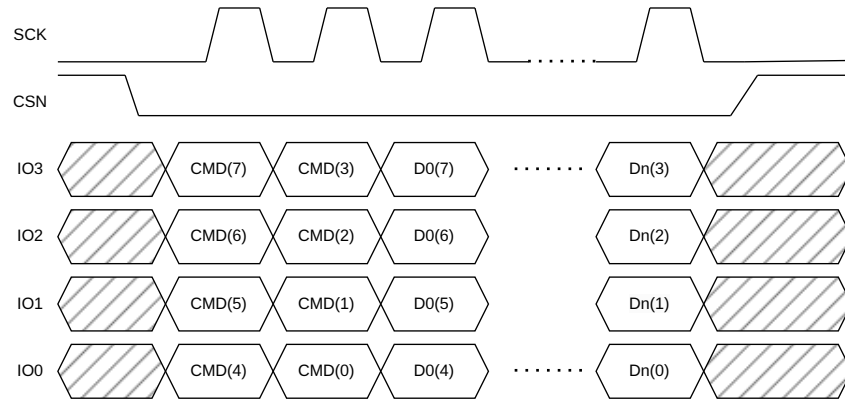

Figure 1.9: QSPI transaction.
The QSPI uses the same mechanism that offer SPI but instead of using **MISO** / **MOSI**, the QSPI uses all four (4) bits for data transmission (**IO3**,**IO2**,**IO1**,**IO0**) see Figure 1.9. The devices changes IO direction, on the data bytes, depending if a read operation transaction is issued.